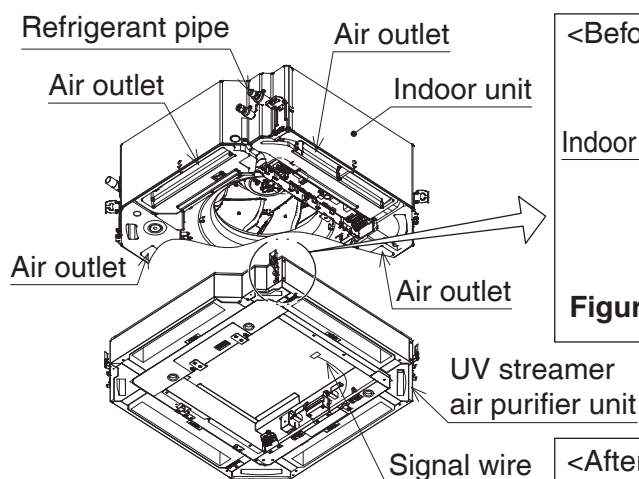

Figure 10
4. Mount the UV streamer air purifier unit to the indoor unit by using the unit-latching hooks (4 locations). (Refer to **Figure 10**.)
(1) Remove the tape from the unit-latching hooks (4 locations). (Refer to **Figure 10**.)